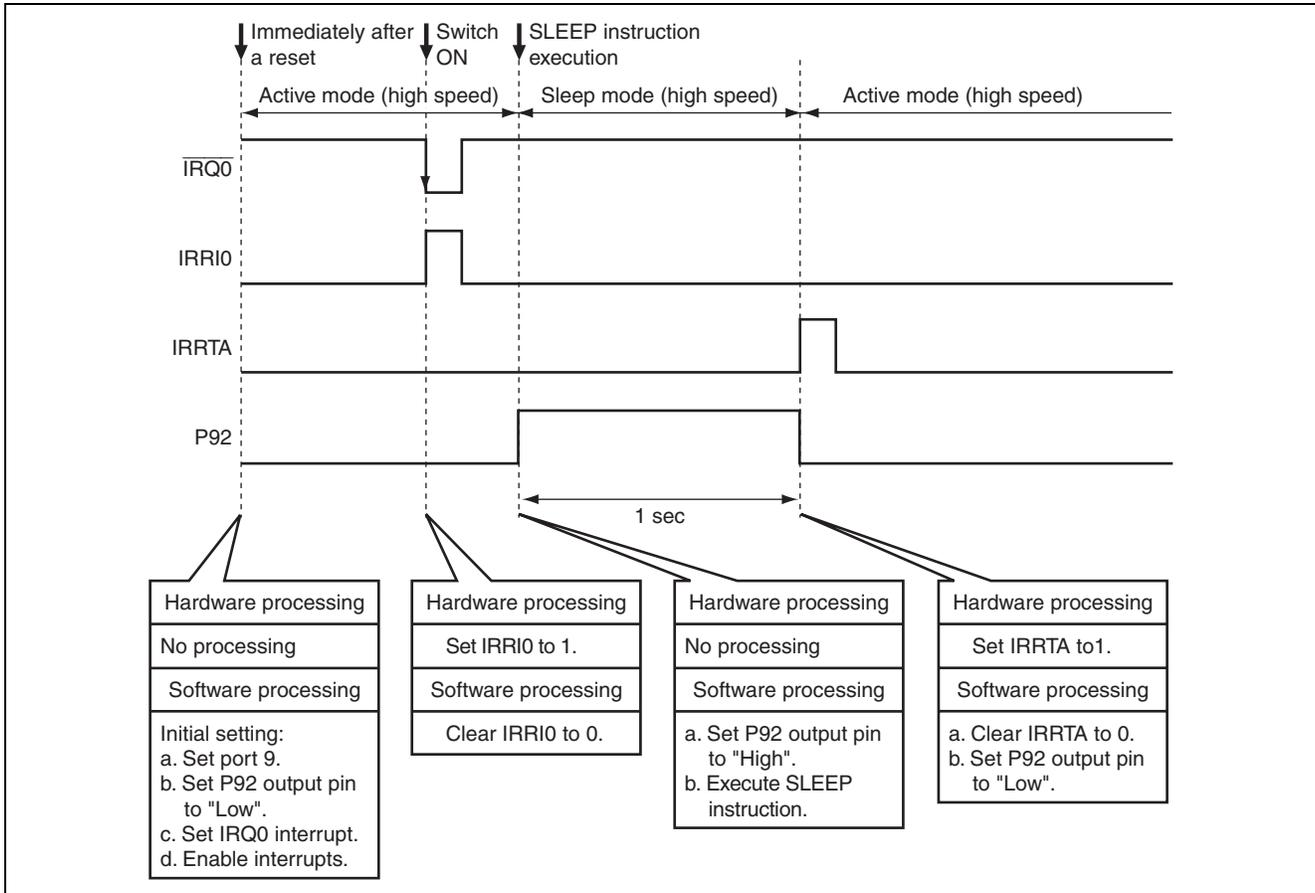

Figure 3.1 Operation Principle of Making Transition to High-Speed Sleep Mode
1. Figure 3.1 illustrates the operation of this sample task. Transition to the high-speed sleep mode is carried out through hardware and software processing as shown in the figure.